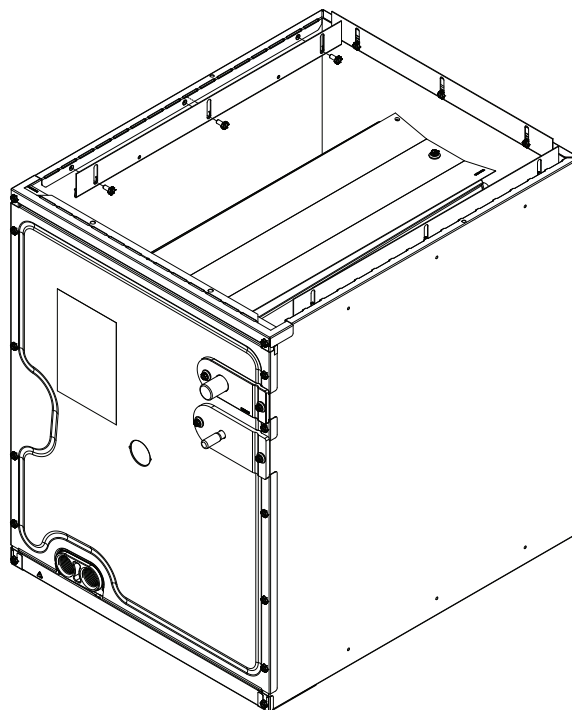

Figure 7
- A duct flange kit can also be purchased from your distributor. (See Figure 7)